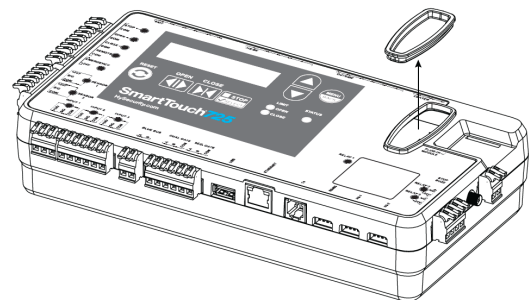

Figure 66. Remove OXI Port Rubber Plug
1. Remove the receiver port rubber plug (Figure 66). Ensure that the radio power switch is on.